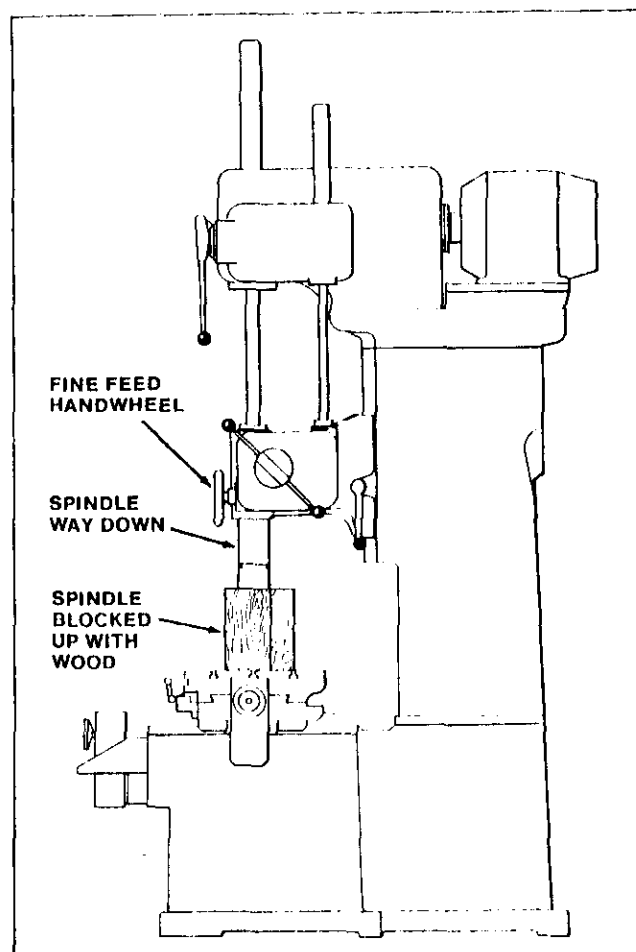

Figure M-4. Blocking Up Sliding Head
7. Block up the spindle and sleeve with wooden blocking built up from the table (see Figure M-4).
## REASSEMBLING THE SLIDING HEAD (Figure M-4)